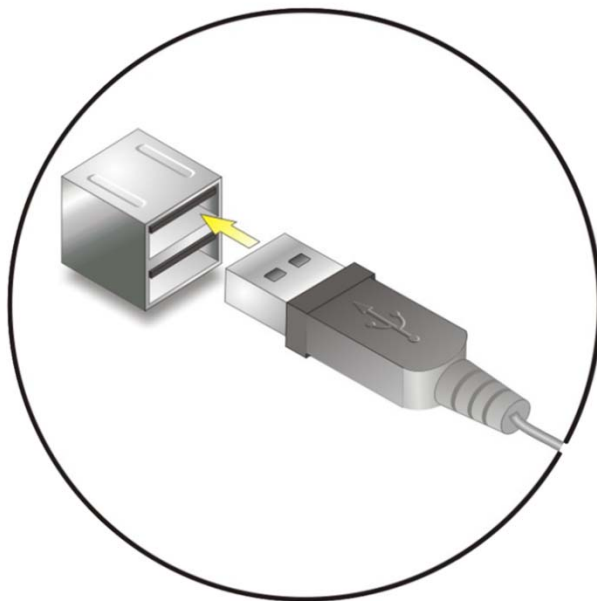

Figure 10 – USB Device Connection
Step 2: Align the connectors. Align the USB device connector with one of the connectors on the bottom panel. See Figure 10.